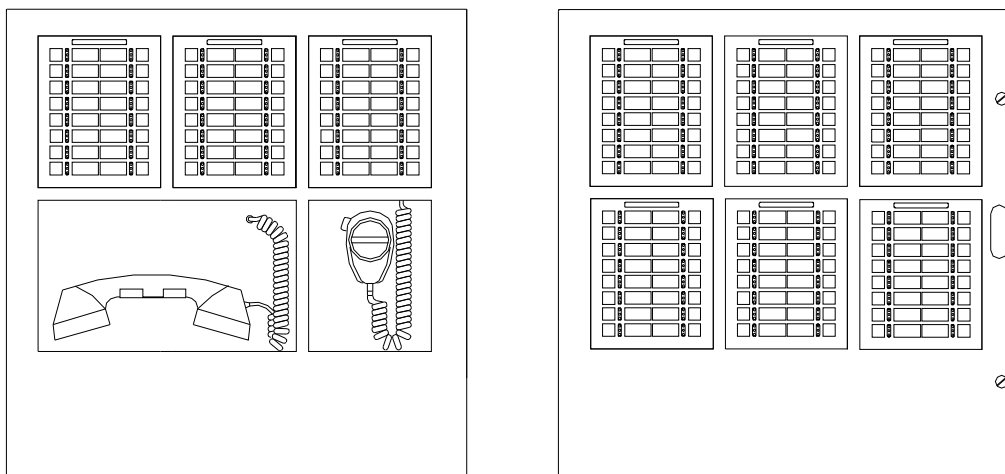

Figure 2.7.1 Typical INCC Command Center
- An optional fire fighter's telephone handset assembly occupies two standard bays and requires the use of the INCC-T inner door which combines two bays to accommodate the telephone assembly. See Figure 2.7.1.